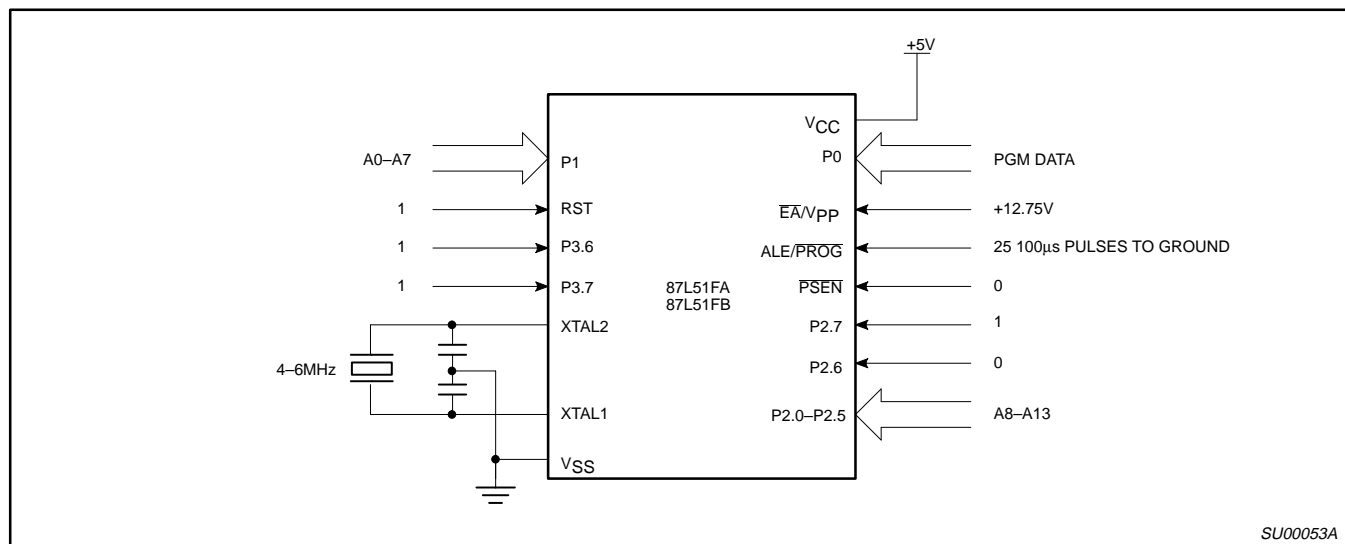
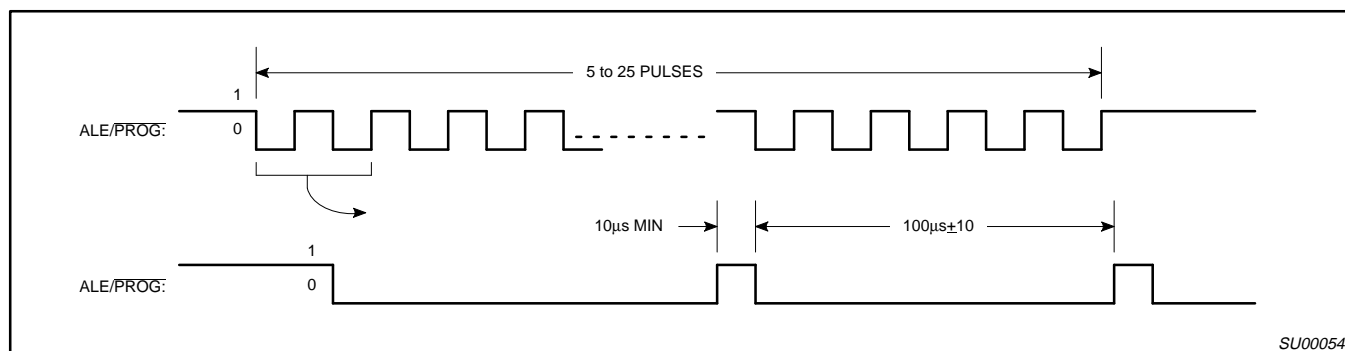
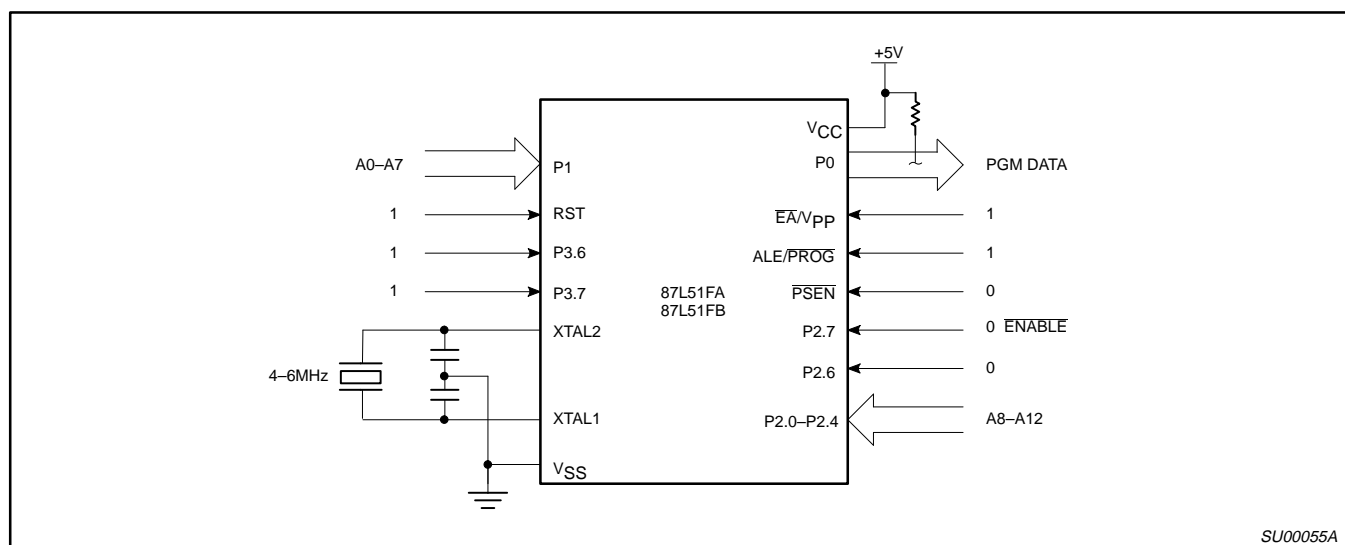

Figure 13. Programming Configuration
Figure 14. PROG Waveform
Figure 15. Program Verification
Table 2 shows the logic levels for reading the signature byte, and for programming the program memory, the encryption table, and the security bits. The circuit configuration and waveforms for quick-pulse programming are shown in Figures 13 and 14. Figure 15 shows the circuit configuration for normal program memory verification.
The setup for microcontroller quick-pulse programming is shown in Figure 13. Note that the 87L51FA/FB is running with a 4 to 6MHz oscillator. The reason the oscillator needs to be running is that the device is executing internal address and program data transfers.
The address of the EPROM location to be programmed is applied to ports 1 and 2, as shown in Figure 13. The code byte to be programmed into that location is applied to port 0. RST,  $\overline{PSEN}$  and pins of ports 2 and 3 specified in Table 2 are held at the 'Program Code Data' levels indicated in Table 2. The ALE/PROG is pulsed low from 5 to 25 times as shown in Figure 14.
If security bit 2 has not been programmed, the on-chip program memory can be read out for program verification. The address of the program memory locations to be read is applied to ports 1 and 2 as shown in Figure 15. The other pins are held at the 'Verify Code Data' levels indicated in Table 2. The contents of the address location will be emitted on port 0. External pull-ups are required on port 0 for this operation.
- \* FOR PROGRAMMING VERIFICATION SEE FIGURE 13.
FOR VERIFICATION CONDITIONS SEE FIGURE 15.